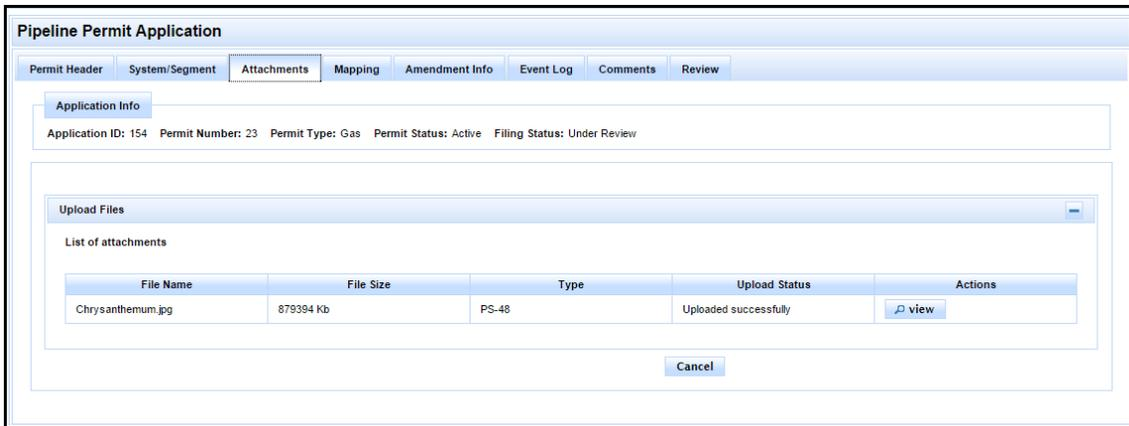

Figure 74: Permitting Reviewer Attachments Tab
- Review the information on the System/Segment tab. When you are finished, click the Attachments tab. An example Attachments tab is shown in Figure 74. When the filing status is On Hold, you can edit the Docket Information field. When you receive Docket information, enter the Docket Number Assigned and the Docket Number Assigned date into their fields. When one of the Reviewers enters the Final Order Date, the system will change the filing status from On Hold to Pending. When the filing status is updated to Pending, the 45-day review window begins.